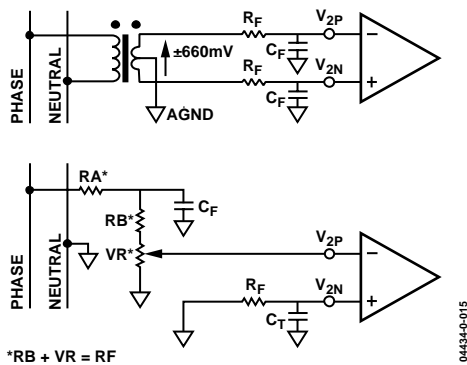

Figure 12. Typical Connection for Channel 2
Figure 12 shows two typical connections for Channel V2. The first option uses a potential transformer (PT) to provide complete isolation from the main voltage. In the second option, the ADE7760 is biased around the neutral wire, and a resistor divider is used to provide a voltage signal that is proportional to the line voltage. Adjusting the ratio of R_A and $R_B + R_V$ is a convenient way of carrying out a gain calibration on the meter.